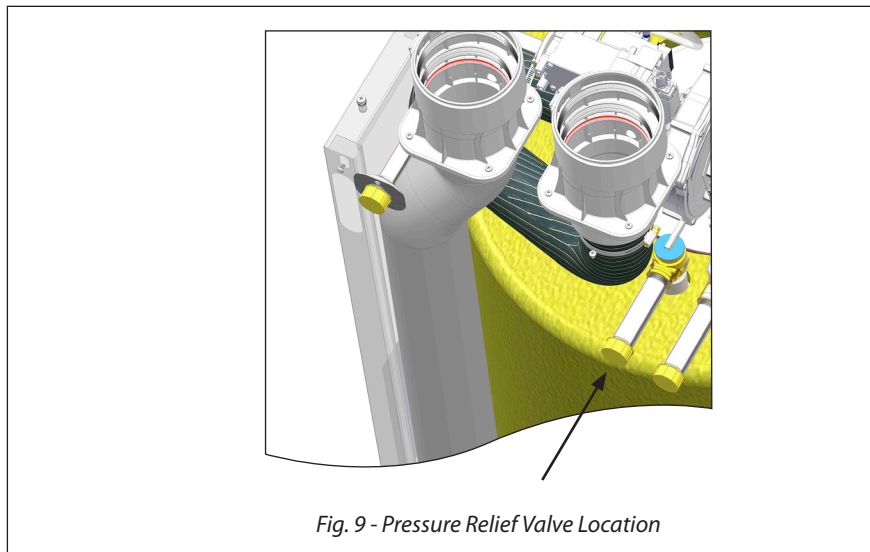

Fig. 9 - Pressure Relief Valve Location
1. The HeatMaster TC is supplied with a factory installed 45 psi pressure relief valve. See *Fig. 9 below* for relief valve location.